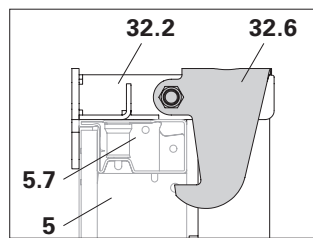
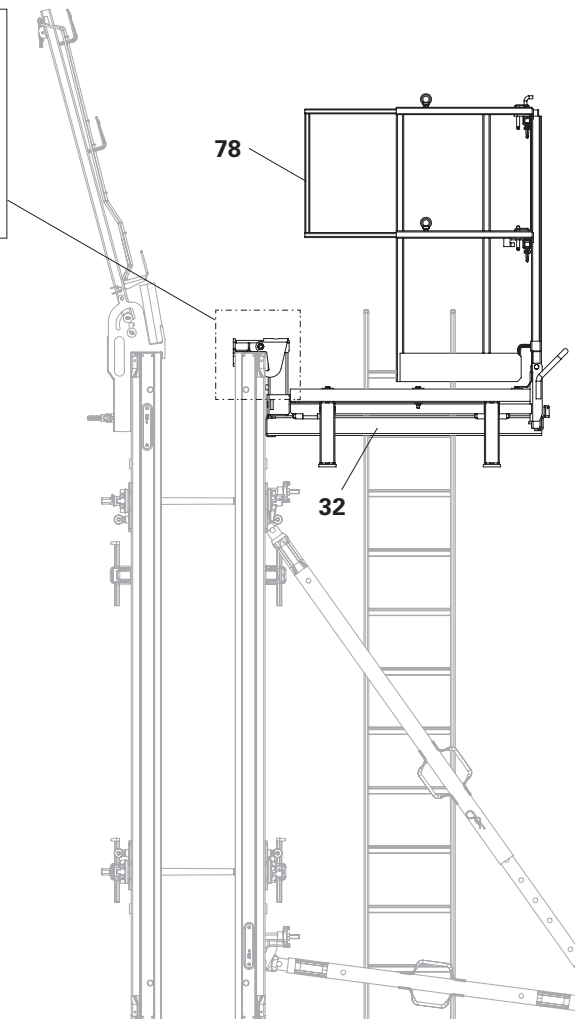

Fig. A13.05a
Fig. A13.05
1. Attach Conc.Platform MX 100x240 (32) to the upper frame profile (5.7) of Panel MX-2 (5) with the suspension beams (32.2).
- The retaining claw (32.6) grips the frame profile (5.7) and secures the Conc.Platform MX 100x240 (32).
- (Fig. A13.05 + Fig. A13.05a)
(Fig. A13.05a)